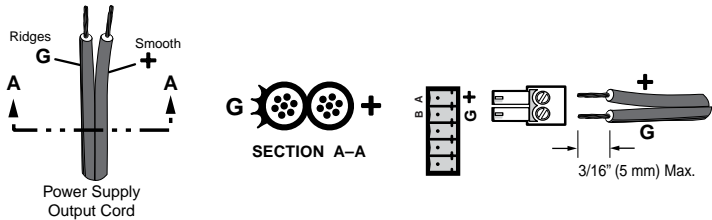

Figure 8. Wiring the Power Connector
- When you are connecting the power supply, voltage polarity is extremely important. Applying power with incorrect voltage polarity could damage the power supply and the equalizer. Identify the negative lead by the ridges on the side of the cord (see figure 8, above).